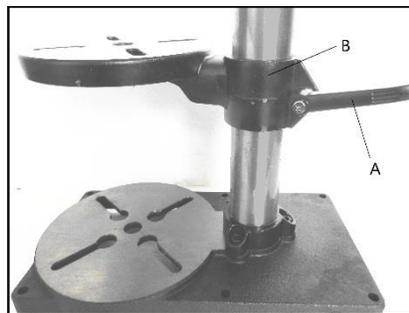

Fig 2
Slide the table rising up to proper position then fasten the lock handle (A, Fig 2) on the bracket (B).